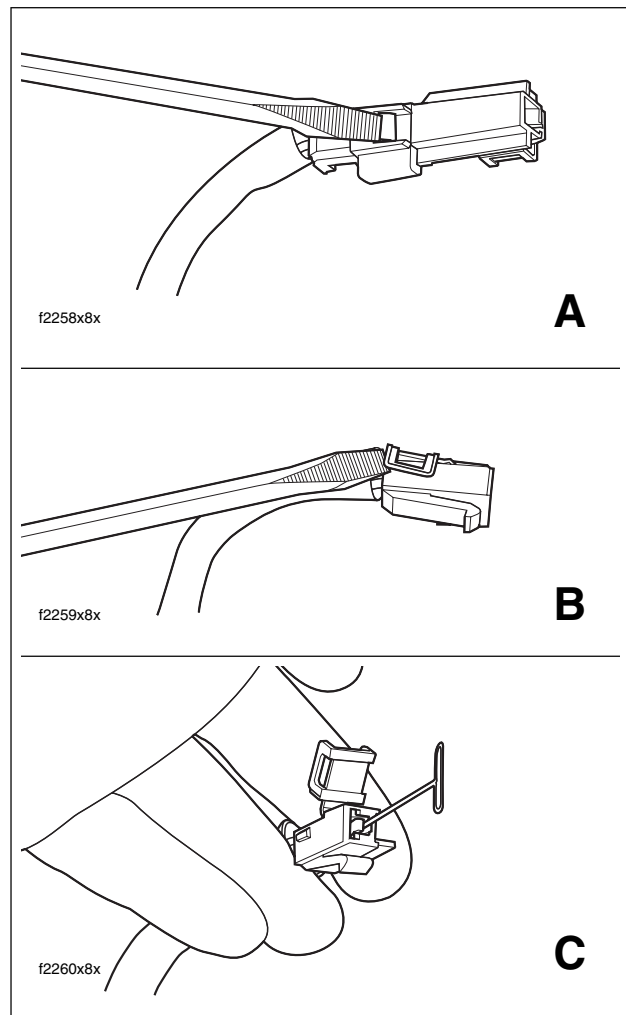

Figure B-25. Remove Socket Terminal
6. Using small flat blade screwdriver, depress button on pin housing (red wire) side of the connector and pull apart the pin and socket halves. See A of Figure B-25.
7. Bend back the latch slightly and free one side of secondary lock, then repeat the step to release the other side. Rotate the secondary lock outward on hinge to access terminal in chamber of connector housing. See B of Figure B-25.
8. On the mating end of the connector, note the tang in the square shaped opening centered next to the terminal. Gently insert the point of a stick pin or large safety pin into the opening between the tang and the chamber wall until it stops. Pivot the end of the pin toward the terminal body to depress the tang. Remove the pin and then pull terminal out wire end of connector housing. See C of Figure B-25.
6. Install **new** anchored cable strap in lower hole on left side of frame crossmember (in front of battery box). Tighten cable strap to capture conduit of both accessory connector and B+ connector approximately one inch from connector housings. See Figure B-25.